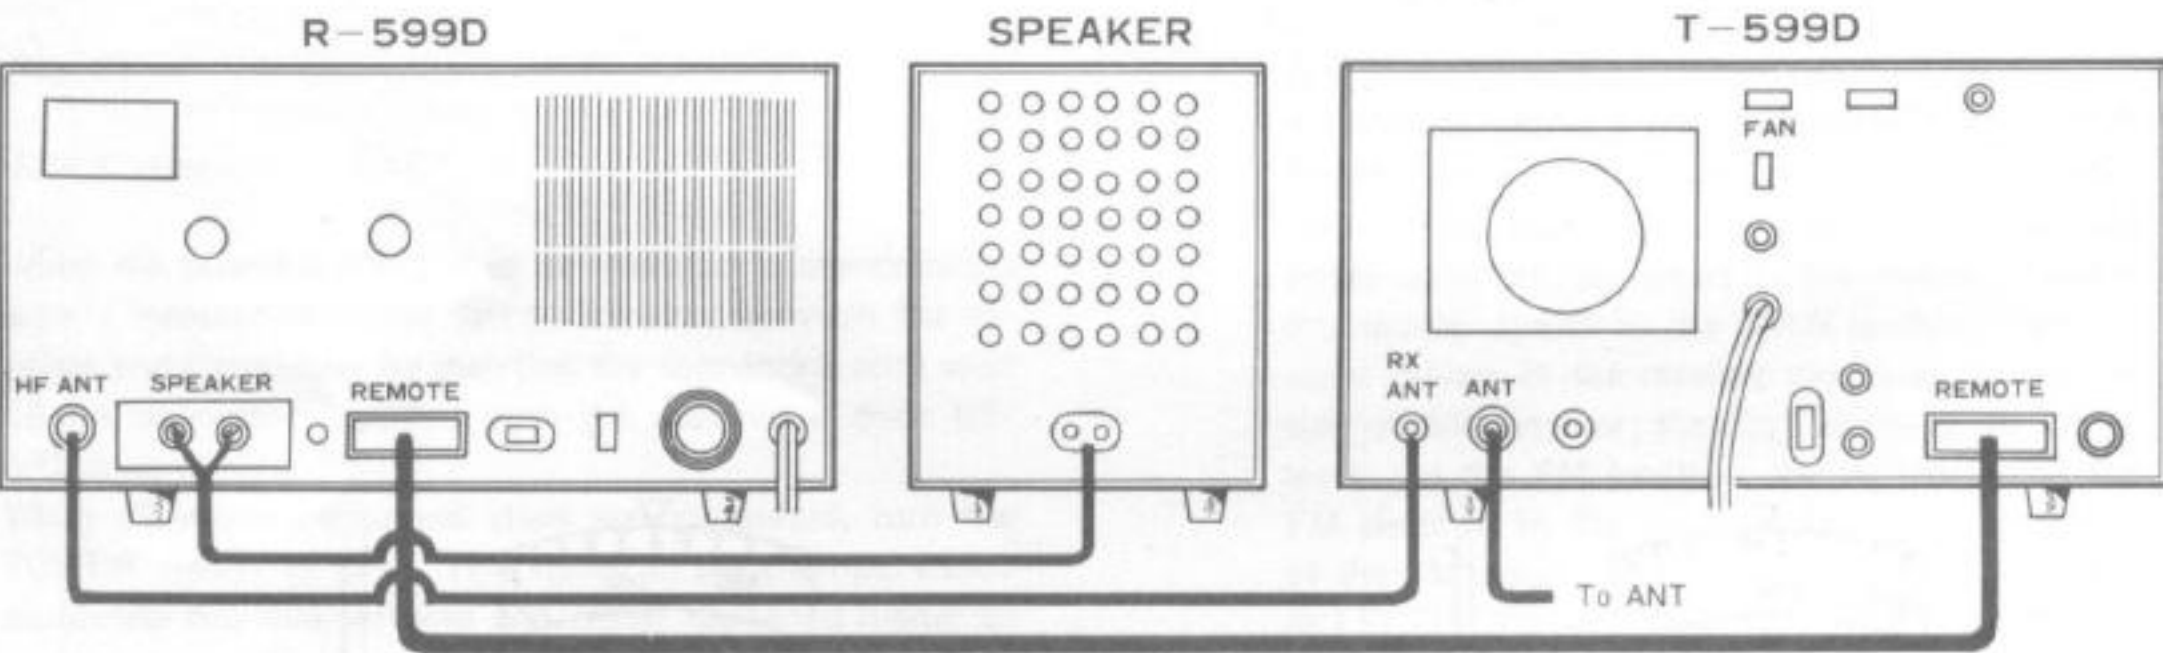

Fig. 7 Combined Transmitter-Receiver Operation Using R-599D & T-599D
- (1) Connect between the REMOTE terminals on the model T-599D and R-599D as shown in Fig. 7 using the connecting cable with 16-pin connector supplied with the model T-599D. Connect the antenna to the antenna terminal of the transmitter. Also, connect the RX ANT termi-